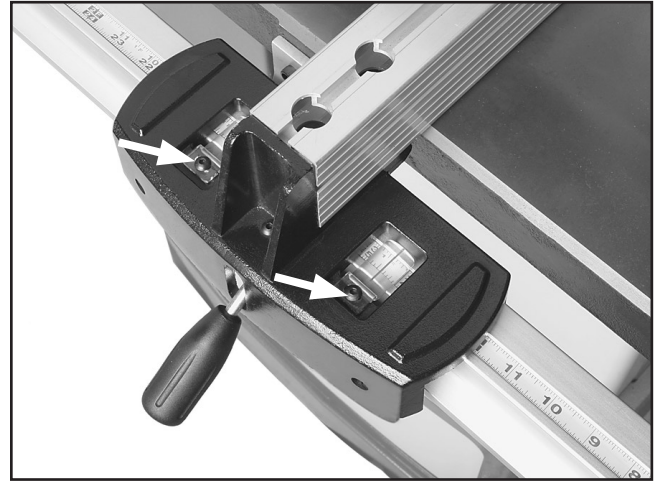

Figure 40. Scale calibration screws.
4. If the reading on the scale is not the same as the width of the cut workpiece, loosen the screws on the magnifying window (**Figure 40**) and adjust it to match the width of the cut workpiece.